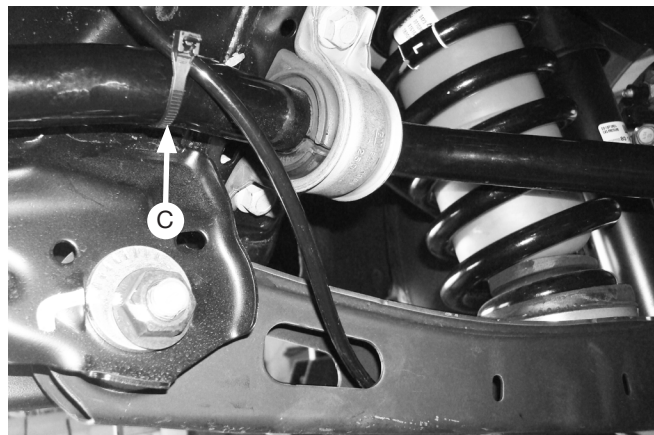

Fig. 12
6. Once the air line is attached to the air spring, push the air spring down to the bottom of the coil spring. Leaving sufficient slack for suspension articulation, attach the air line to the sway bar with a supplied zip tie (C) and route the air line up to the top of the crossmember (Fig. 12).